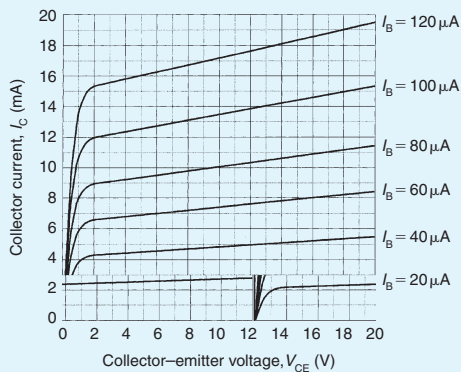

Figure 12.27
- The output characteristics for a BJT are shown in Fig. 12.27. If this device is used in a common-emitter amplifier circuit operating from a 12 V supply with a base bias of $60\text{ }\mu\text{A}$ and a load resistor of $1\text{ k}\Omega$, determine (a) the quiescent values of collector-emitter voltage and collector current and (b) the peak-peak collector voltage when an $80\text{ }\mu\text{A}$ peak-peak signal current is applied.